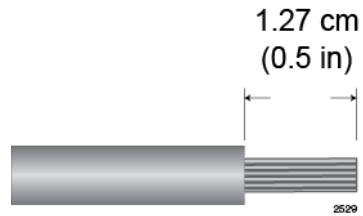

Figure 123. Stripping the Power Wires
1. Prepare adequate lengths of two stranded 8 AWG power wires by stripping them as shown in Figure 123 on page 191.